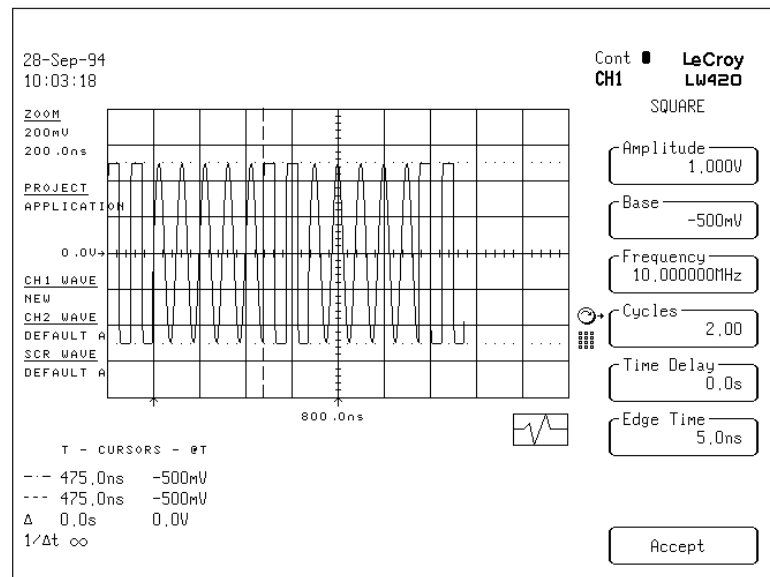

Figure 2.3 Add two cycles of square wave
- 9. Verify that all menu items match those shown in figure 2.3